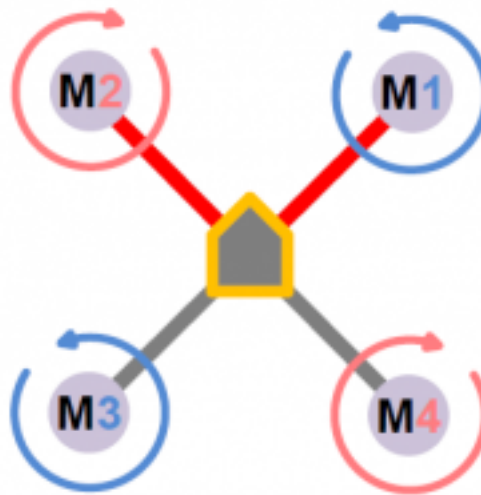

figure 1
A quadcopter, also called a quadrotor helicopter or quadrotor, is a multicopter that is lifted and propelled by four rotors. Quadcopters are classified as rotorcraft, as opposed to fixed-wing aircraft, because their lift is generated by a set of rotors (vertically oriented propellers). Quadcopters generally use two pairs of identical fixed pitched propellers; two clockwise (CW) and two counterclockwise (CCW). These use independent variation of the speed of each rotor to achieve control. In drones, each motor spins in the opposite direction of the adjacent motor as shown in Figure 1. This allows it to achieve vertical lift.